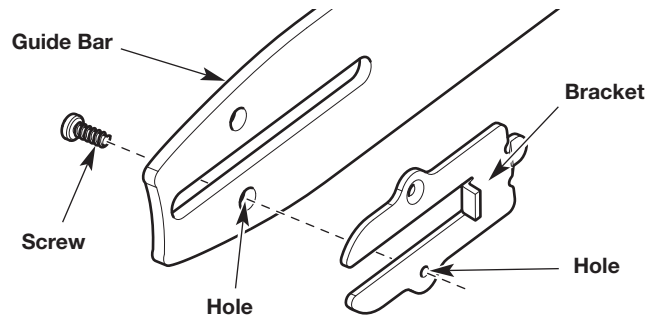

Fig. 23
5. Use a small Phillips screwdriver to remove the screw that holds the bracket onto the guide bar (Fig. 23).
1. Place the bracket onto the guide bar (Fig. 23). Align the hole on the bracket with the hole on the guide bar (Fig. 23). Insert the screw into the aligned holes (Fig. 23). Tighten the screw securely with a small Phillips screwdriver.